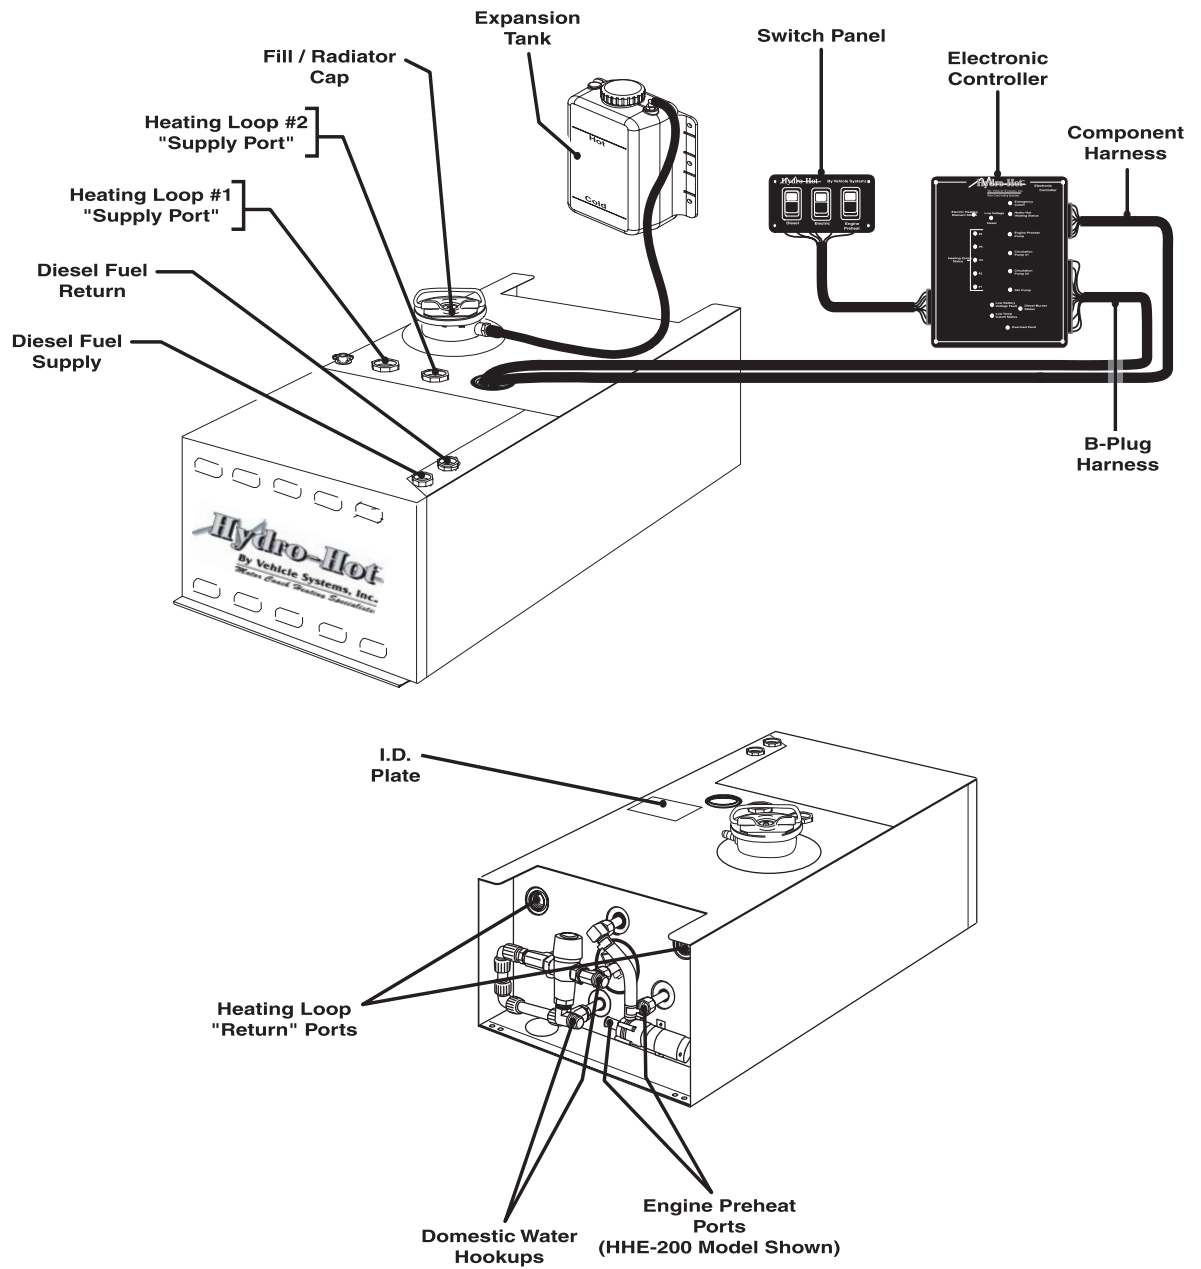

Figure 2
NOTE: The Hydro-Hot is available in three versions / models. All three models come standard with the continuous domestic hot water and interior / fresh water tank heating features. The engine preheat and motoraid options are available on the HHE-200 and HHE-500 series, respectively. Be sure to identify the specific version / model of Hydro-Hot prior to installing the Heater. Do this by locating the I.D. Plate on the top side of the heater near the Access Cover, see Figures 2 and 2A.
5. Once the Hydro-Hot has been permanently mounted, remove the Heater's Access Cover, see Figure 2.